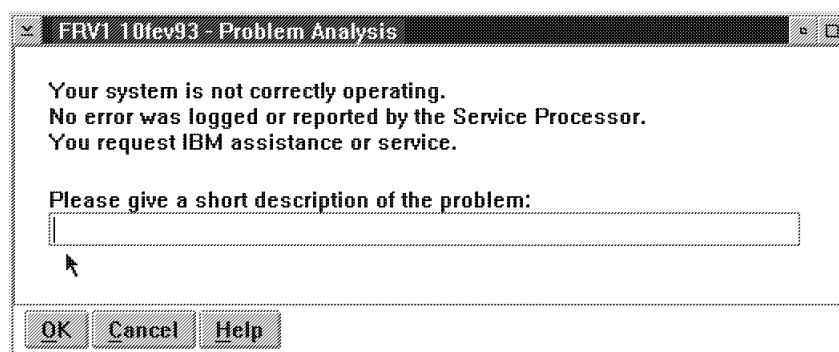

Figure 3-2. Link to RETAIN
4. ____ See Figure 3-2 on page 3-9, enter a **short description** of the problem then click on "**OK**".